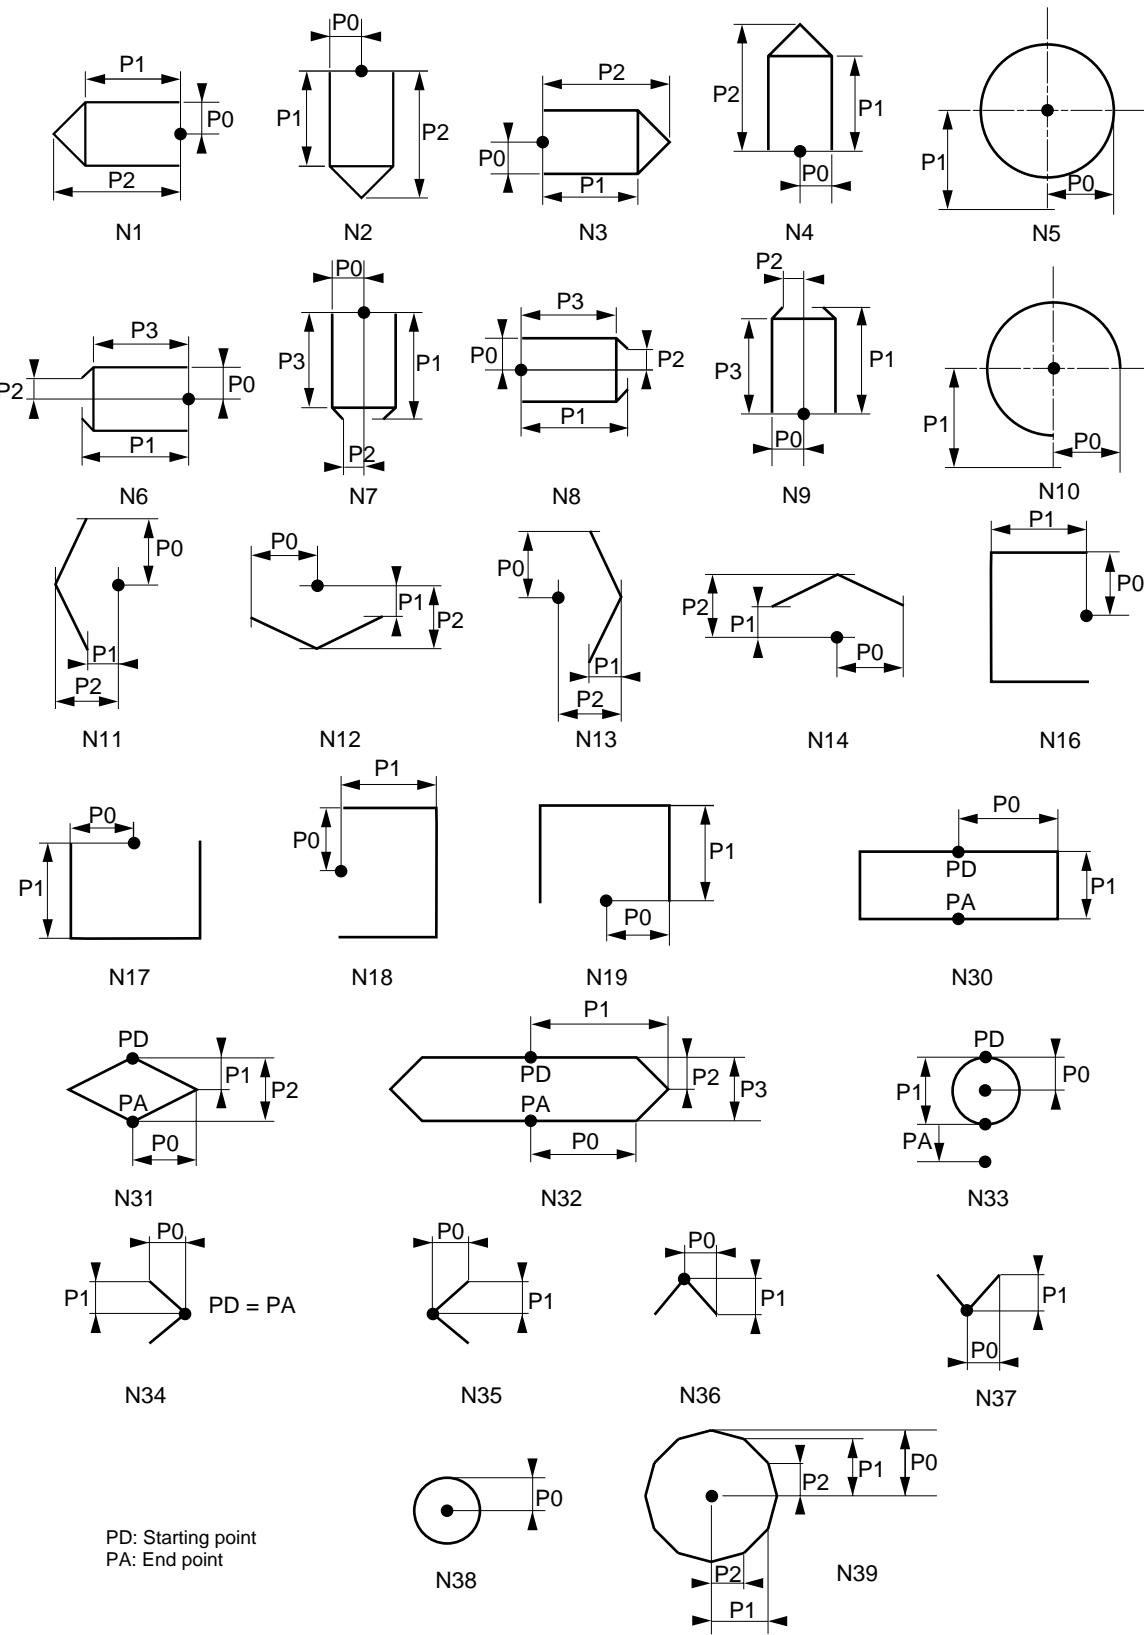

Figure 8.7 - Definition of icons
**REMARK**        *Not all values are significant (see Fig. 8-7).*